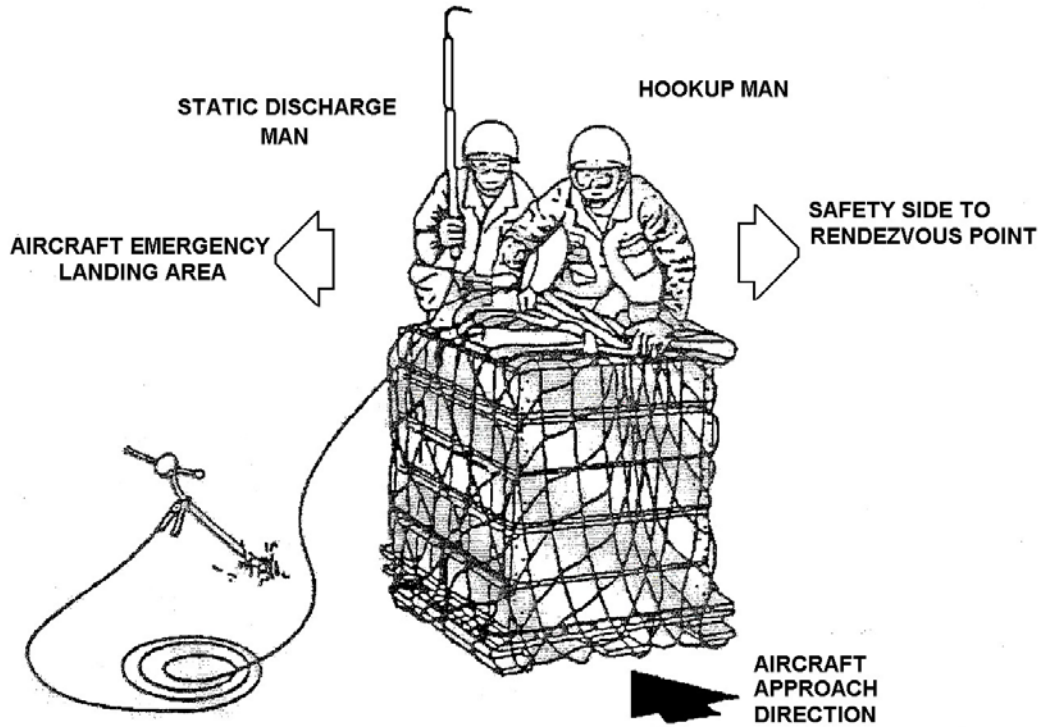

Figure 3-3
- a. Ensure hookup person is on or near the load in a stable position (see Figure 3-3).